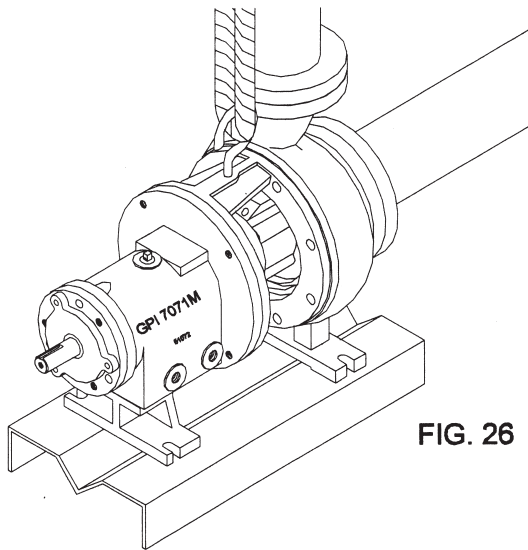

FIG. 26
1. Clean fits between rotating assembly and impeller housing (26).
2. Place stem plate gasket (24) on stem.
4. Install rotating assembly in impeller housing (26). Torque bolts according to values in Table 6. (Fig. 26)